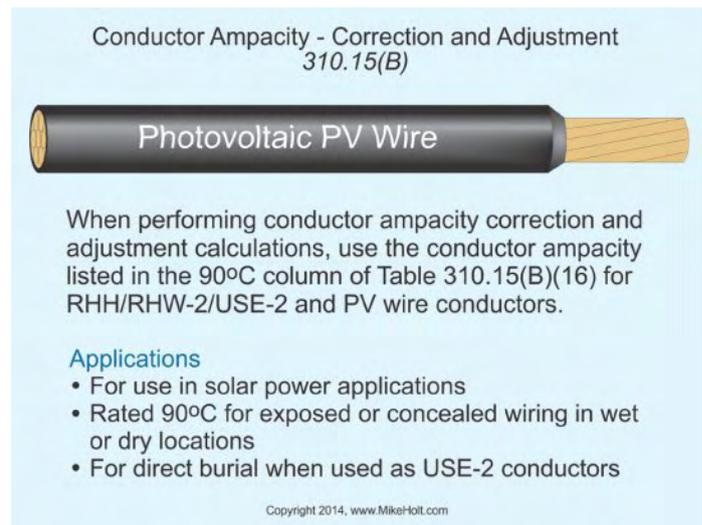

Figure 690-45
- When performing conductor ampacity correction and adjustment calculations, use the conductor ampacity listed in the 90°C column of Table 310.15(B)(16) for RHH/RHW-2/USE-2 [310.15(B)] and PV wire at 90°C [110.14(C)(1)(b)(2)]. **Figure 690-45**